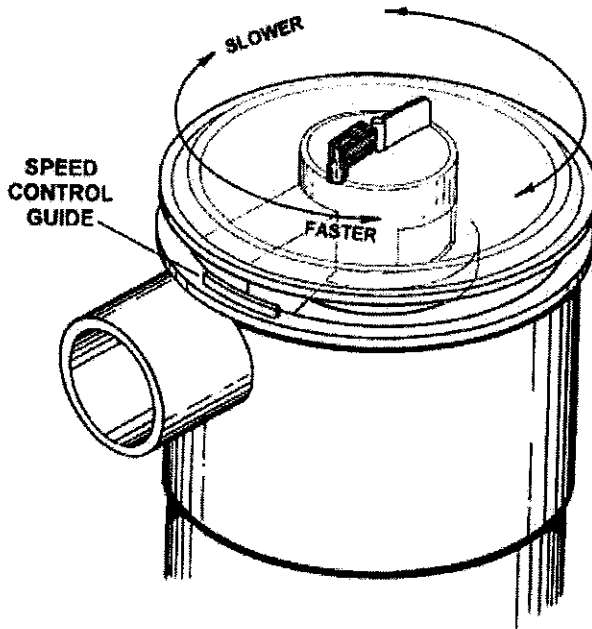

Figure 18-1
1. There is a raised speed control guide molded into the top lip of the valve housing (see Figure 18-1) and a groove molded into the clear lid that accepts the speed control guide.